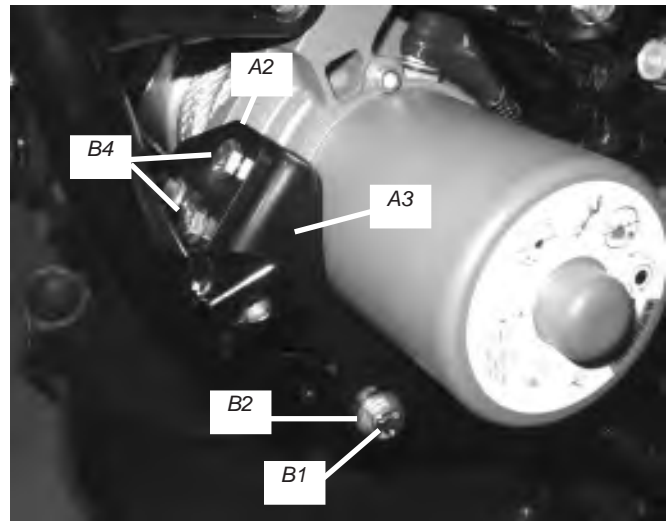
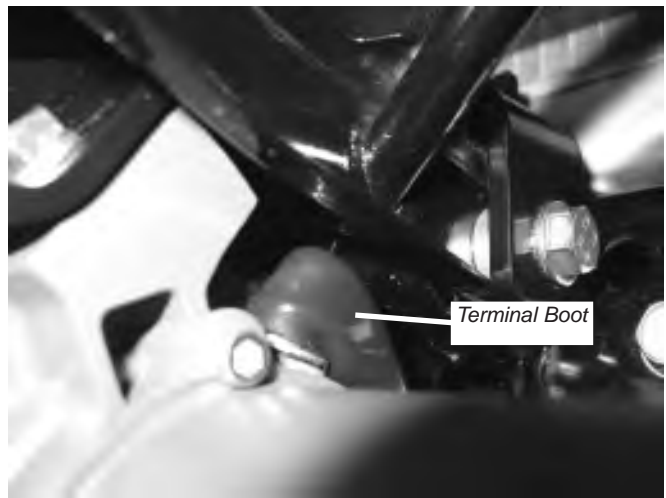
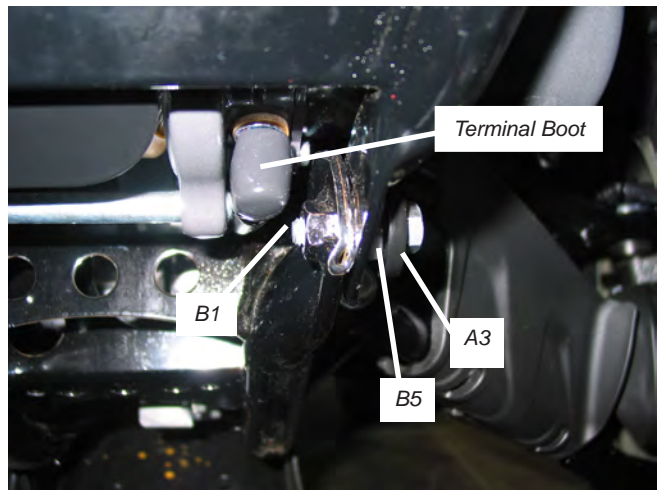

Figure 14 Completed Winch Installation
Figure 16 Upper Motor Terminal Clearance
Figure 17 Lower Motor Terminal Clearance
15. Place the side mounting bracket (A3) onto the bottom mounting bracket (A2) and install the two supplied 6mm-1.00 x 12mm bolts (B4), figure 14. Place the 6.3mm spacer (B5) between the side mounting bracket and the bumper. Fasten the supplied 8mm-1.25 x 30mm bolt (B1) through the flat washer (B2), side mounting bracket, spacer (B5), bumper, and into the frame, figure 14 and figure 17. Do not tighten at this time.
17. Position the winch on the brackets to maximize the clearance between the motor terminals and the adjacent bumper or frame members, figure 16 and figure 17.